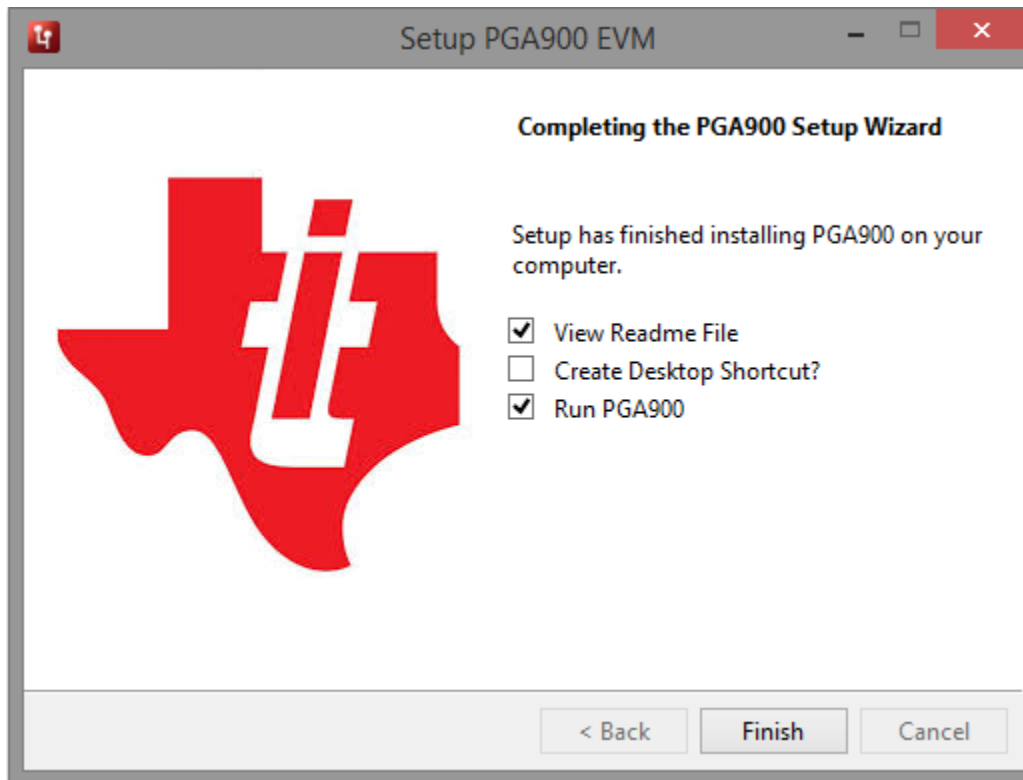

Figure 1-18. Installation Complete
15. The screen shown in Figure 1-18 appears and denotes the end of the PGA900 GUI installation.